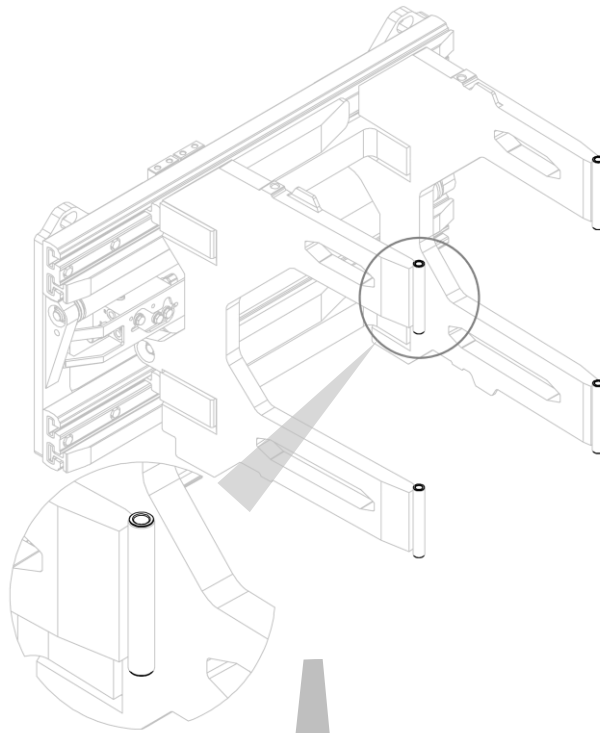
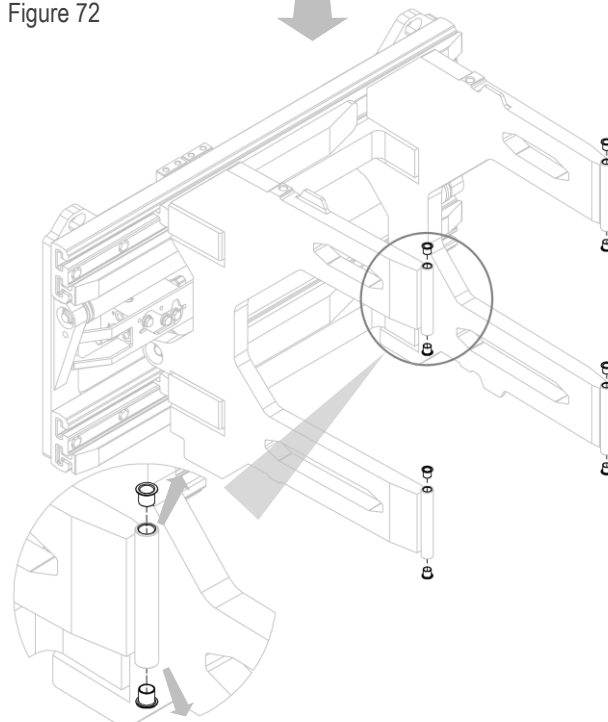

Figure 72
Figure 73
3. Remove the swing bushes from their housings (see *Figure 72* and *Figure 73*).